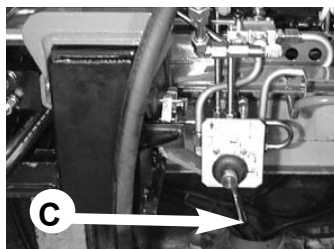

fig. 20a
- Lever **D** Deviator crane - outriggers (  - **E/S**). Fig. 20a-20b
- Unfold the crane into a working condition, positioning lever **D** of oil diverter crane-outriggers (  - **E/S**) on  **E/S**. Fig. 20a